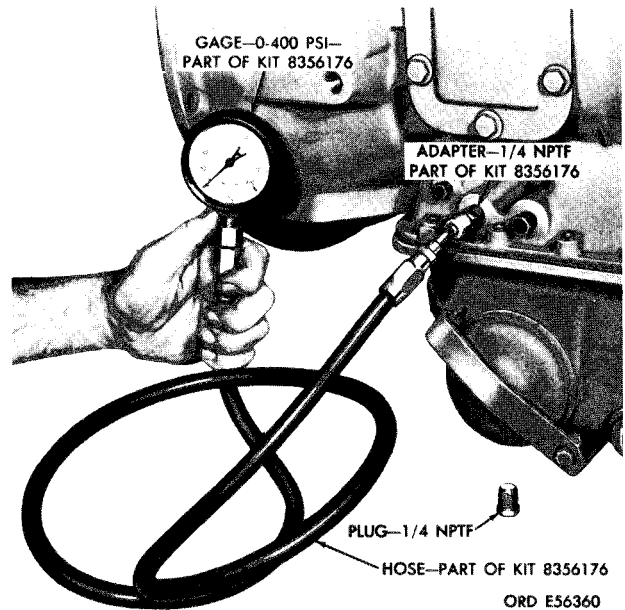

Figure 5-143. Pressure gage attached to 1/4 NPTF pressure check point (gage, adapter, and hose are part of kit 4910-572-8612 (8356176)).
(2) The 0-400 psi gage, hose, and fittings from oil gage kit 4910-572-8612, and the method of attaching are shown in figure 5-143.